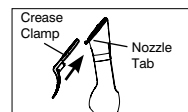

Figure 5
7. Attach the crease tool (Fig. 5) onto the nozzle tab and gently push into place.
- Attach the crease tool to the steam nozzle (Fig. 5).